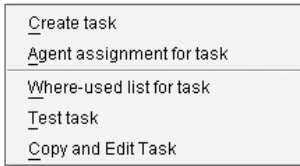

Figure 8.7 Dropdown to Create a Task from the Workflow Builder
3. Select the `CREATE TASK` option from the button list on the button next to `TASK` as shown in Figure 8.7.